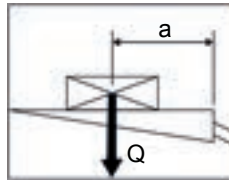

Figure 30: Load diagram
The maximum permissible payload (Q) depends on the load distance (a, see Figure 30). The load distance (a) is the distance between the rear edge of the truck load area and the payload center of gravity (S, see safety instruction on page 72).